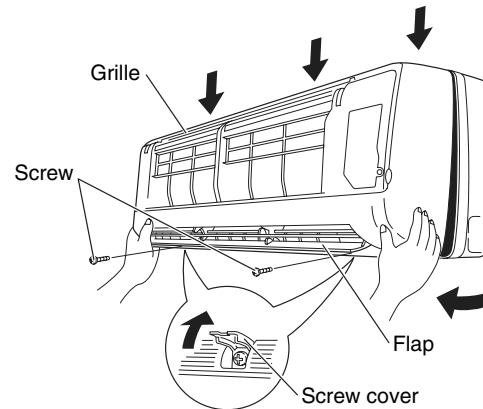

Fig. 10
- (2) Remove the 2 screws where the screw covers are open. Grasp the grille on both bottom sides, and pull it towards you slightly. (Fig. 10)
- (3) Press the 3 tabs on the top of the grille to disengage them. (Fig. 10)
- (4) Pull the grille towards you to remove it. (Fig. 10)